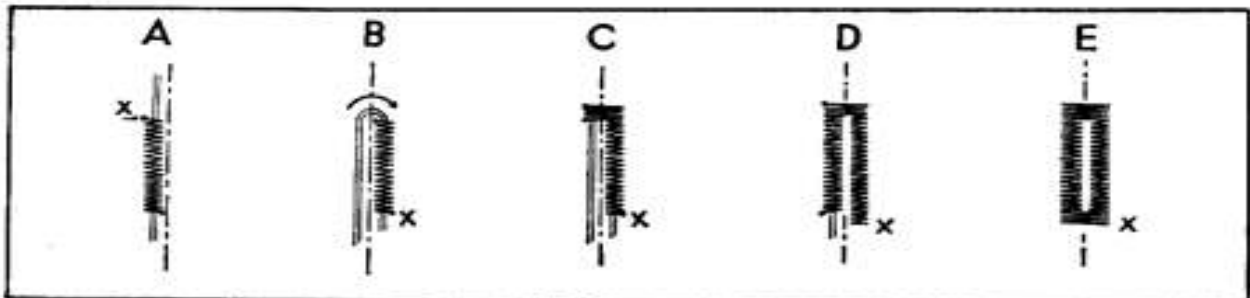

Fig.24
6. Start sewing to length "X" as shown in Fig. 24 A.
7. Now turn the fabric 180 degree so that now X appears on bottom as shown in Fig. 24 B.
stitches as shown in Fig. 24 C.
9. Set "B" to about 2 and sew the other side of the button hole, as shown in Fig. 24 D.
10. Make a few full width stitches to close the ends as shown in Fig. 24 E.